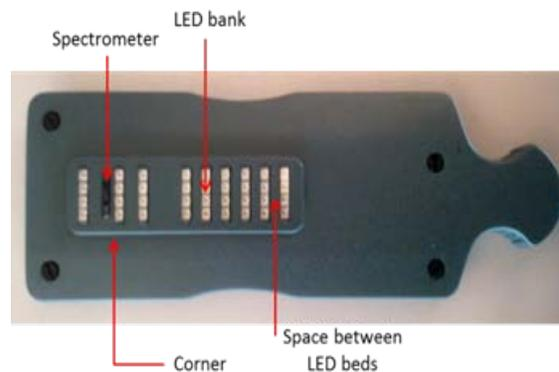

Figure 32. Layout of optical windows including LED banks and spectrometer
- 4 Use a different wipe to wipe the area between the LED banks to remove debris (Figure 32)
- 1 Click 'Check Sensor Connection' button on the System Tools page (Figure 32 1).
- 1 Click 'Reset Sensor' button on the System Tools page (Figure 32 2).